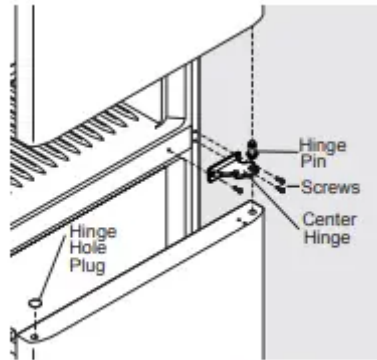

Figure 3
5. Unscrew the center hinge pin using an adjustable wrench and set it aside (see Figure 3).
7. Remove the 3 center hinge screws using a Phillips screwdriver and set the center hinge aside (see Figure 3)